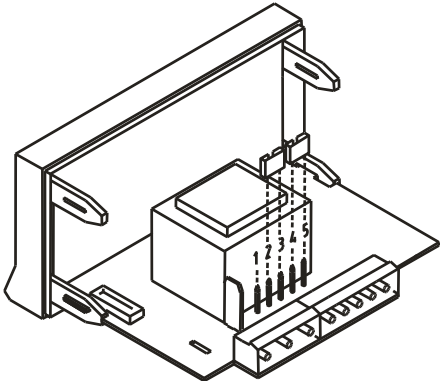

Fig. 9.2. Jumper settings for 230 V or 48 V AC
**115/230 V AC:** The instruments with 115/230 V AC power are set up at fabrication for 230 V AC (USA market 115 V AC), see figure 9.2. To change power supply configuration to 115 V AC, make the jumpers indicated in figure 9.3 and table 1. The wiring label should be modified to match the new configuration.
**24/48 V AC:** The instruments with 24/48 V AC power are set up at fabrication for 24 V AC, see figure 9.2. To change power supply configuration to 48 V AC, make the jumpers indicated in figure 9.3 and table 1. The wiring label should be modified to match the new configuration.